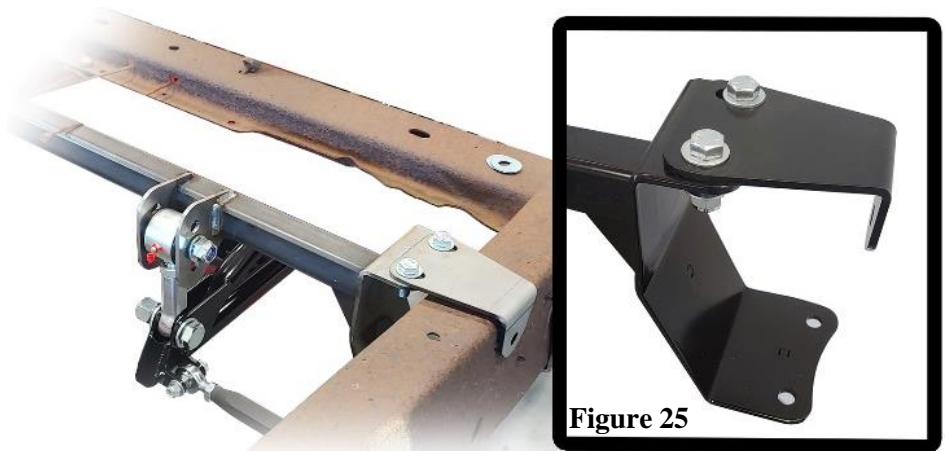

Figure 25
40. Bolt the support brackets to the crossmember using 7/16" x 1.25" hardware with two washers per connection and nyloc nut. The upper brackets are not right/left specific. Torque to 49 lb. ft. (Figure 25)